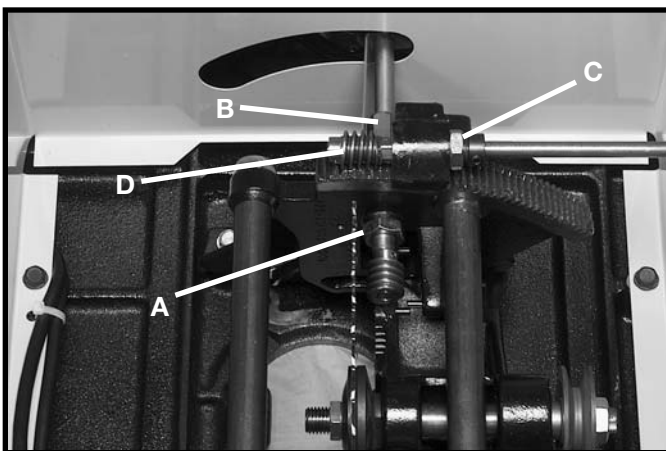

Fig. 45
2. **Adjusting blade raising mechanism** - Loosen locknut (A) Fig. 45, and turn eccentric sleeve (B) until all play is removed in mechanism and tighten locknut (A).
3. **Adjusting blade tilting mechanism** - Loosen locknut (C) Fig. 45, and turn eccentric (D) until all play is removed in mechanism and tighten locknut (C).